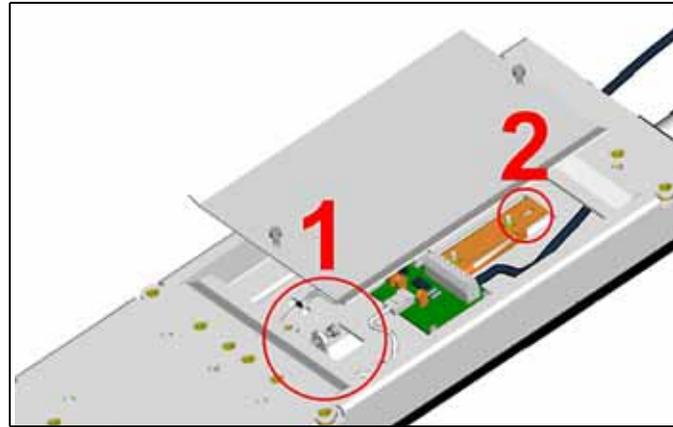

Figure 2-3—The GFI lock screw (M4) is found at (1) when not in use. Move the lock screw to (2) to secure the GFI to the SMT machine.
2. Lock the GFI Adapter base in place as shown in Figure 2-3 below.